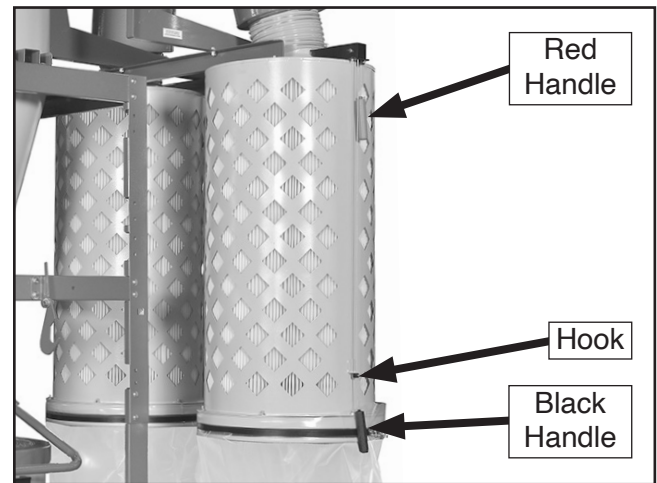

Figure 72. Brush handles in correct position for filter removal.
3. Pull the black handle all the way down and secure the cable into the handle hook at the bottom of the canister assembly, as shown in **Figure 72**, to hold it in place during the following steps.